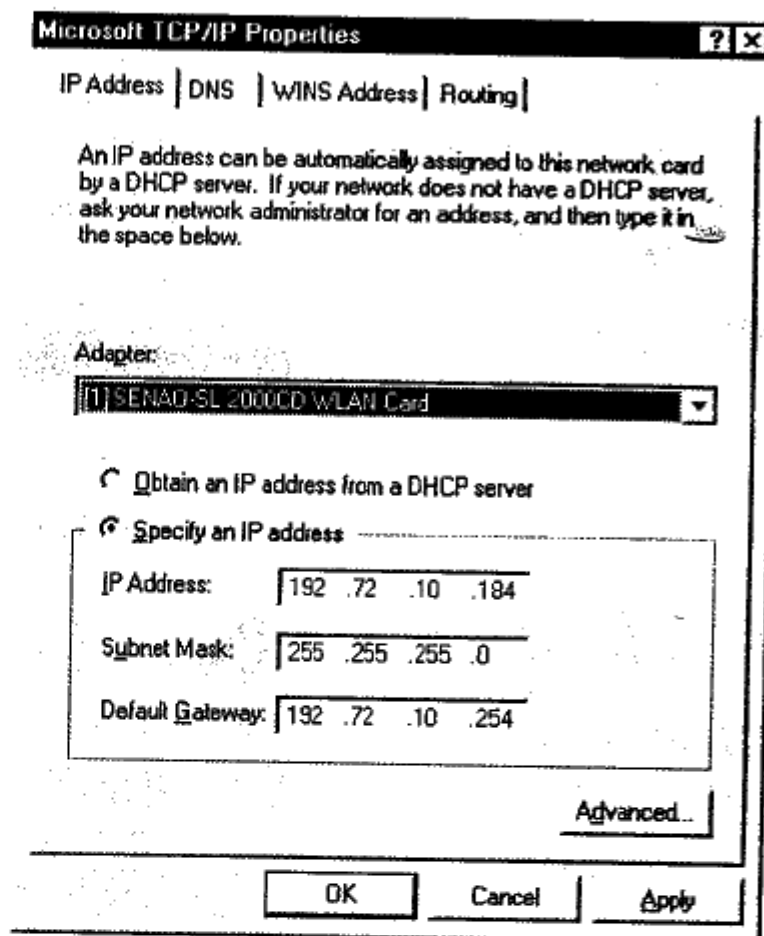

Figure 3-30
10. Click "Close" to open the "Microsoft TCP/IP Properties" window. Windows NT will ask for the IP address assignment method. Select "Obtain an IP address from a DHCP server" or "Specify an IP address" as shown in Figure 3-30.